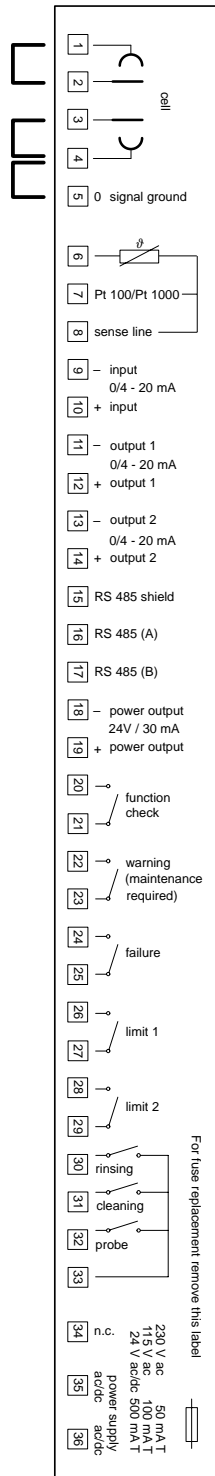

Fig. 10–6 Terminal Assignments Transmitter 7500
- The weatherproof enclosure allows direct wall mounting. For dimension drawing, see Fig. 10–1.
- With ZU 0126 mounting plate and ZU 0125 bracket kit, the instrument can also be post or pipe mounted. For dimension drawing, see Fig. 10–2.
- ZU 0123 protective hood provides additional protection against direct weather exposure and mechanical damage. For dimension drawing, see Fig. 10–2.
- ZU 0124 protective case provides optimum protection against dust, moisture and mechanical damage. For dimension drawing, see Fig. 10–3.
- Transcribe the specifications from the nameplate of the Transmitter 7500 to the nameplate (1) supplied with the protective case. See Fig. 10–5.
- Screw the included extensions (3) with their corresponding gaskets (2) at the positions of the Pg cable glands.
- Screw the two support rails (4), using two M4x8 screws and two 4.3 toothed lock washers each, *in the same direction* into the cabinet of the protective case.
- Push the four threaded inserts (5) evenly into the free blind holes at the lid of the protective case and spread them a bit apart.
- Stick the nameplate (1) onto the front cover (6) at a clearly visible position.
- Screw the front cover (6) to the lid of the protective case using four screws and toothed lock washers.
Refer to Fig. 10–6 for terminal assignments.